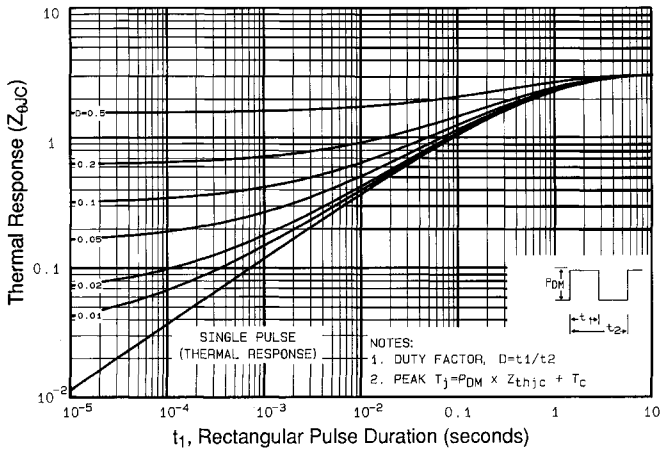

Fig 11. Maximum Effective Transient Thermal Impedance, Junction-to-Case
① Repetitive rating; pulse width limited by max. junction temperature (See Figure 11)
② $I_{SD} \leq 28\text{A}$, $di/dt \leq 170\text{A}/\mu\text{s}$, $V_{DD} \leq V_{(BR)DSS}$, $T_J \leq 175^\circ\text{C}$
③ $t=60\text{s}$, $f=60\text{Hz}$